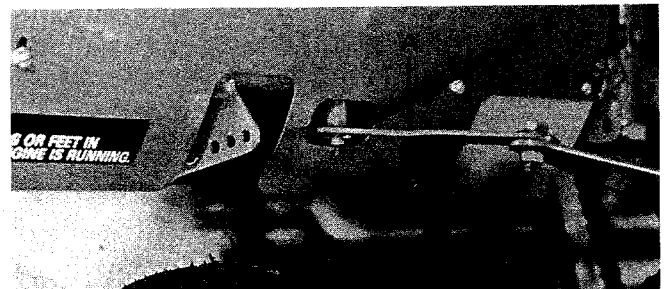

Figure 9
11. Install transport link "A" to center pin on rear of cutting unit and secure with cotter pin (Fig. 9).
— Since extension spring is tensioned, **GRASP SUPPORT ARMS** when installing or removing transport links from cutting units ("A", Fig. 9).